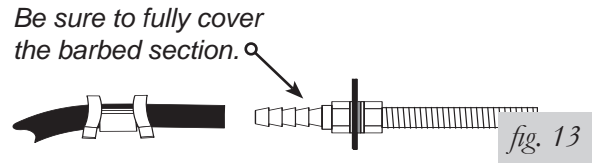

fig. 13
10. Slide the air line clamp over the air line. Push the air line onto the fitting covering all barbs. Using pliers, slide the air line clamp forward until it fully covers the barbed section (fig. 13).
9. Slide a clamp onto the air line and push the air line over the fitting, covering all the barbs. With pliers slide the air line clamp forward until it fully covers the barbed section (see fig. 13).